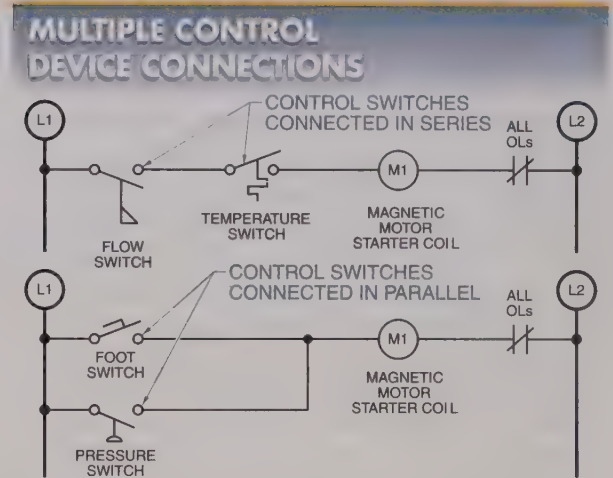

Figure 5-6. Two control devices can be connected in series or parallel to control a coil in a magnetic motor starter.
Two control devices (a flow switch and a temperature switch) can be connected in series to control a coil in a magnetic motor starter. The flow switch and temperature switch must close to allow current to pass from L1, through the control device, the magnetic starter coil, and the overloads, to L2. Two control devices (a pressure switch and a foot switch) can be connected in parallel to control a coil in a magnetic motor starter. See Figure 5-6. Either the pressure switch or the foot switch can be closed to allow current to pass from L1 through the control device, the magnetic starter coil, and the overloads to L2. Regardless of how the control devices are arranged in a circuit, they must be connected between L1 and the operating coil (or load). The contacts of the control device may be either normally open (NO) or normally closed (NC). The contacts used and the way the control devices are connected into a circuit (series or parallel) determines the function of the circuit.